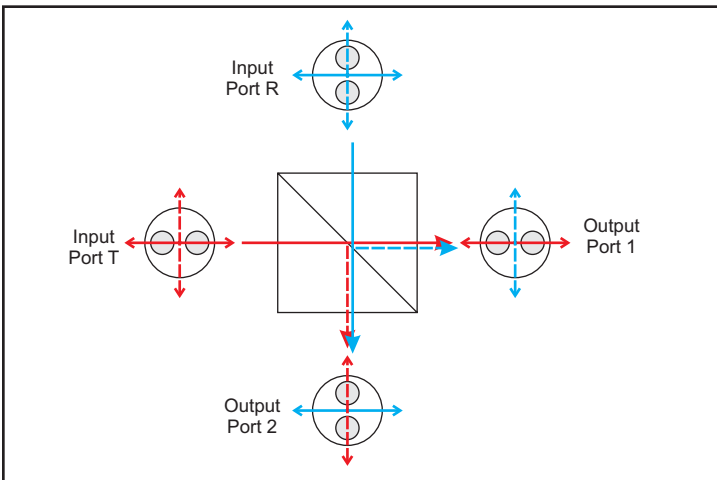

Figure 1: Standard orientation of polarization maintaining fibers on polarizing beamsplitters
**Polarizing Splitters:** Polarizing Beam Splitters split incoming light into two orthogonal states. They can also be used to combine the light from two fibers into a single output fiber. When used as a beam combiner, each input signal will transmit along a different output polarization axis. It is important when using these splitters with polarization maintaining fiber that one understands how the polarization axes are aligned on each port. Figure 1 one shows the standard configuration. With this configuration, the following behavior will be observed: